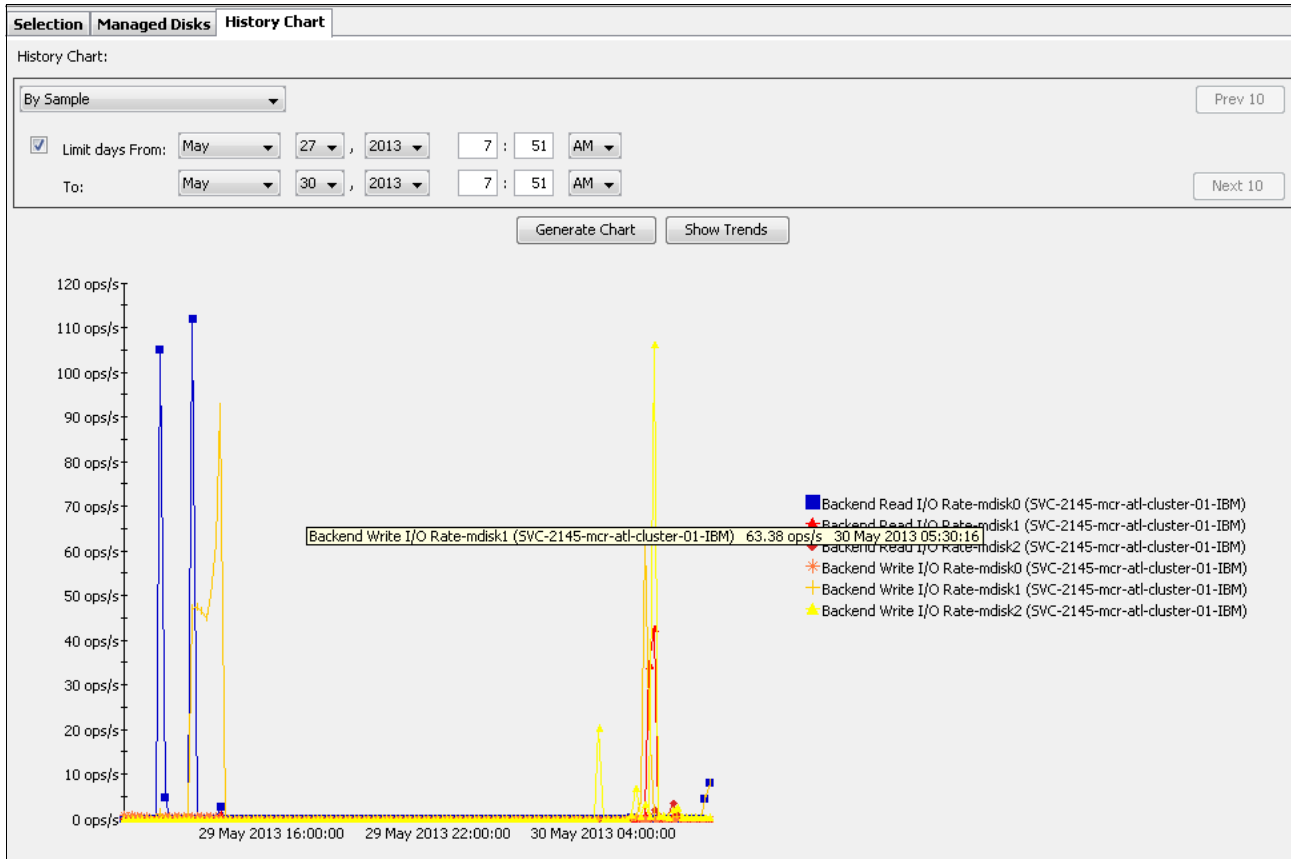

Figure 11-96 MDisk history chart
6. Click the upper left icon to see a history chart report of the selected MDisk, as shown in Figure 11-96.